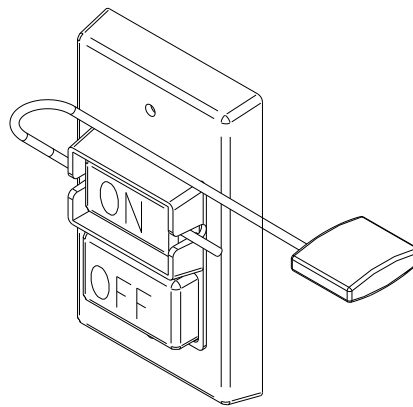

Fig. 8
2. Insert through hole in the star button. See fig. 8.